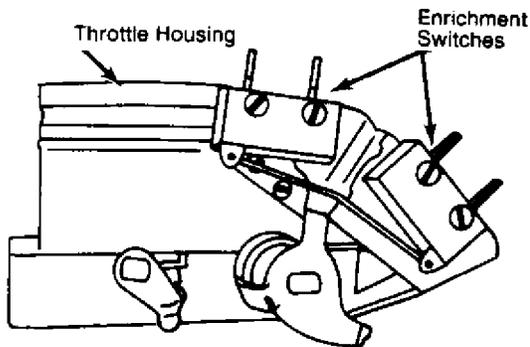

Fig. 14: Throttle Enrichment Switches
5) All models use enrichment switches. See Fig. 14. All switches provide continuity to ground when switch is closed. Actuate throttle to test throttle switches.